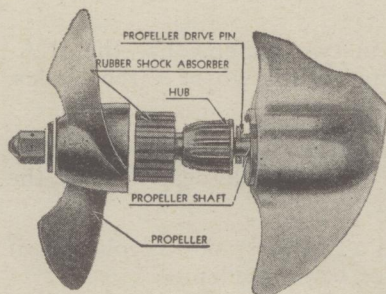

Fig. 19—Showing Rubber Shock Absorber and Hub, Model TS(L) and TD(L)
Models TS(L) and TD(L) are equipped with a shock absorber device built into the propeller, consisting of the propeller, rubber shock absorber and hub. See Fig. 19. The purpose of this feature is to reduce shearing of propeller drive pins to a minimum and to absorb shocks which otherwise might be injurious to the motor in event of striking underwater obstructions. Shock is absorbed by the rubber insert—it acts as a cushion between the propeller and hub.
To install a new drive pin, withdraw cotter pin securing propeller nut. Remove nut, propeller, rubber insert, hub and fragments of sheared pin and insert new pin. Replace hub, rubber insert, propeller and nut. See Fig. 19. Do not draw up too tightly on propeller nut but just enough to make certain the propeller hub rests firmly against the drive pin. It is possible to partially shear the new pin by drawing up too tightly on the nut. Insert cotter pin and lock in position.